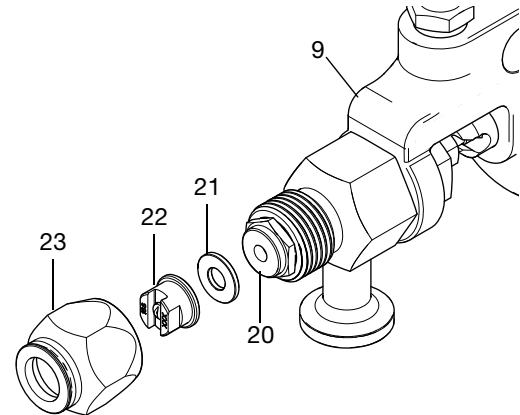

FIG. 8
6. Install the spray tip (22) and gasket (21) inside the tip retainer (23).
7. Securely tighten the tip retainer (23) to the housing (9). See FIG. 8.